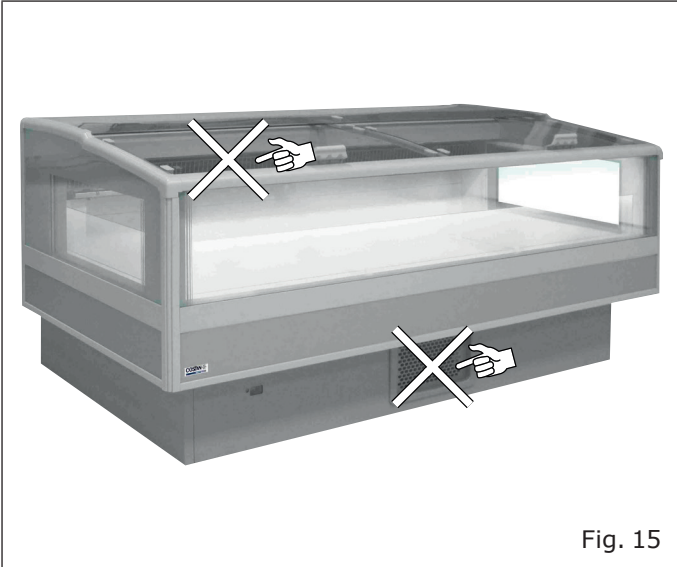

Fig. 15
- The goods do not obstruct the correct flow of refrigerated air ("Fig. 15").